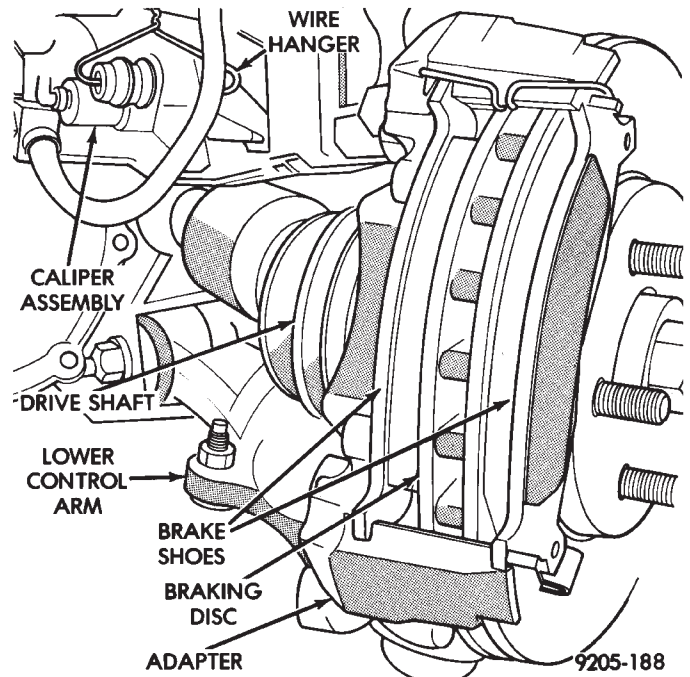

Fig. 4 Storing Caliper
(7) Support caliper firmly to prevent weight of caliper from damaging the flexible brake hose (Fig. 4).